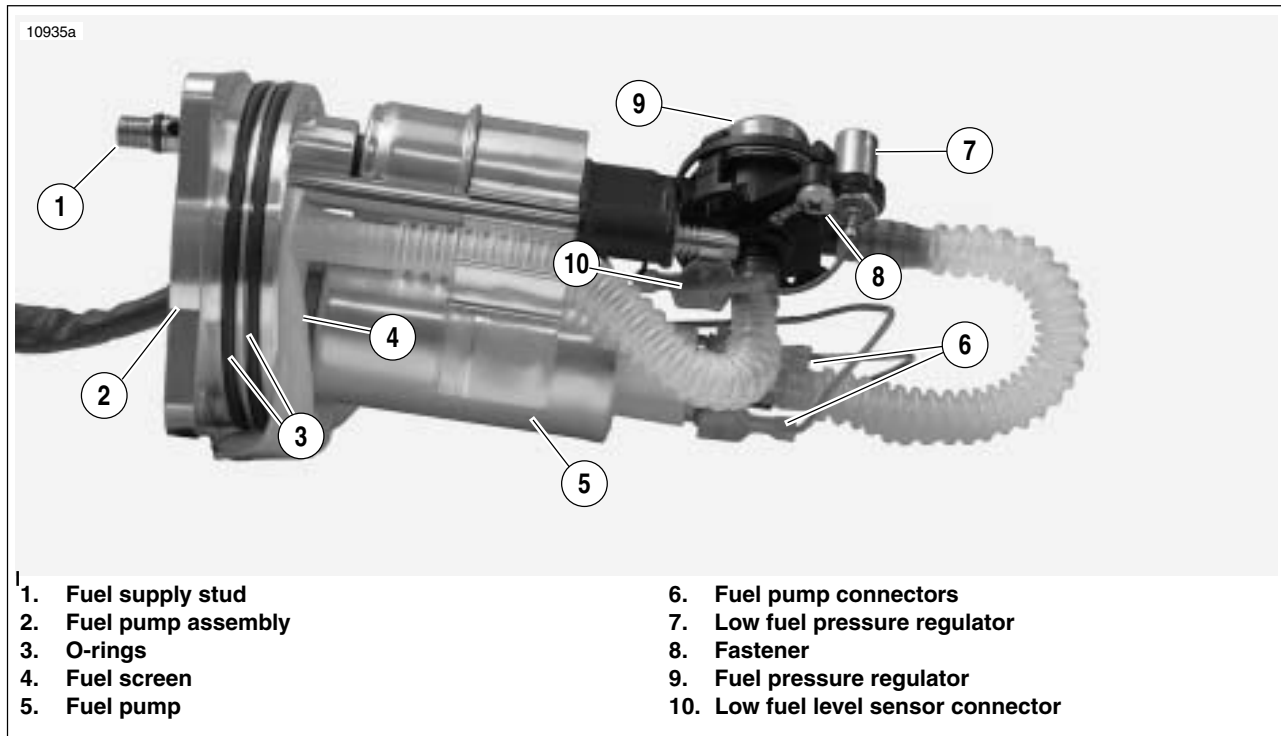
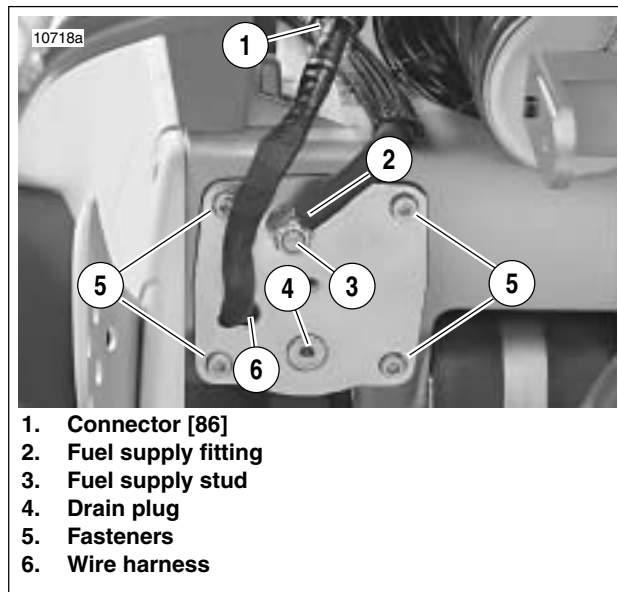

Figure 4-98. Fuel Pump Assembly
Figure 4-103. Fuel Pump Location
1. See Figure 4-98. Replace o-rings (3). Lubricate **new** o-rings with **clean** engine oil.
2. Install **new** o-rings on fuel supply stud (2). Larger o-ring is located in groove closer to fuel pump.
3. See Figure 4-103. Insert fuel pump into frame until resistance is felt.
4. Insert four screws (5) through fuel pump and into frame.